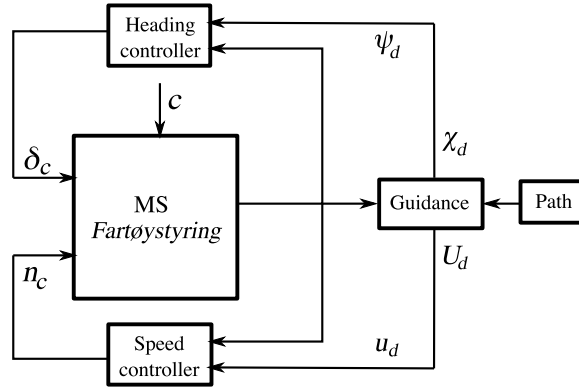

Figure 4: Controller structure for Section 2, Tasks 2.1–2.3.
**Task 2.2.** Use the guidance system outputs as reference signals for the heading and speed autopilots, by directly assigning  $\psi_d = \chi_d$  and  $u_d = U_d$  (see Figure 4). This is a simulation without crab angle compensation. Simulate the system until you think the MS Fartøystyring is sufficiently close to the final way-point. Plot the behavior of the closed-loop system with the included *Matlab* function `pathplotter.m`. Include both figures from `pathplotter.m` in your report. For this task, have the current switched on.